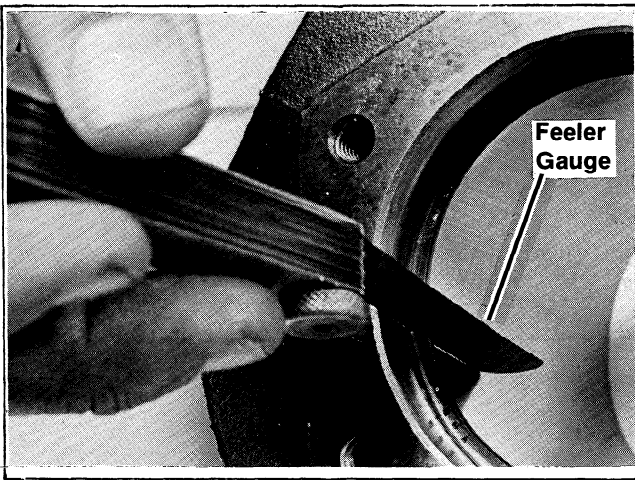

Figure 7-11. Checking Ring End Gap In Bore
3. Before installing new rings on piston, place top two rings each in turn in its running area in cylinder bore and check end gap (see Figure 7-11). This gap should be .010"-.030" in a used